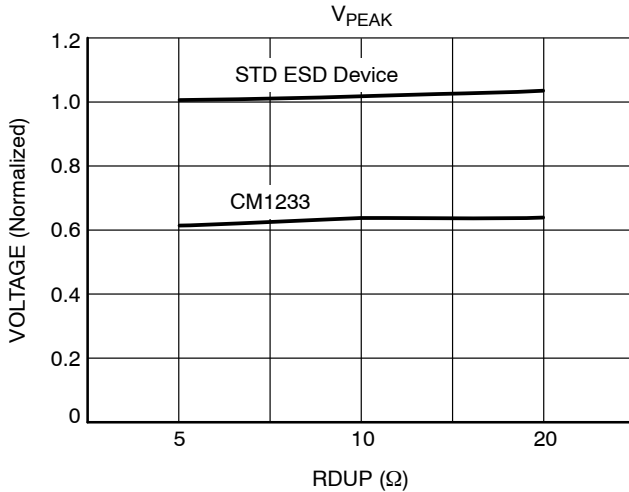
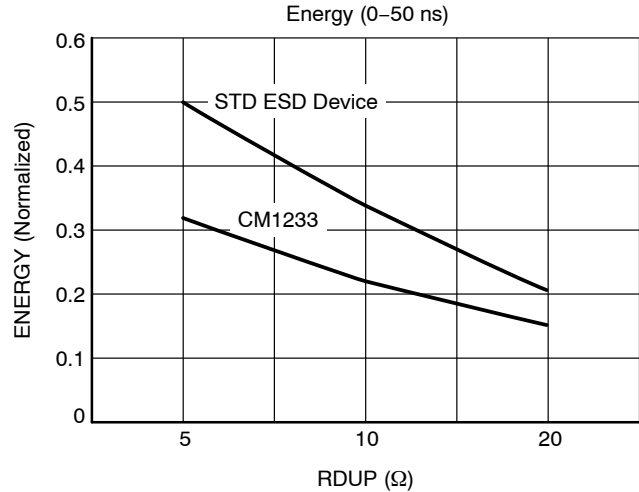
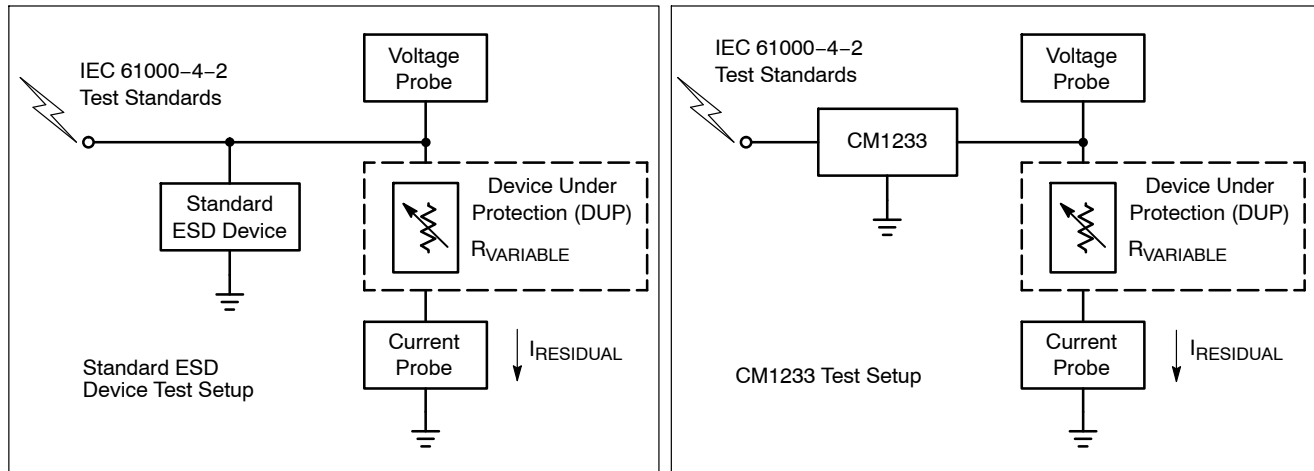

Figure 5. V_{Peak} (8 KV IEC-61000 4-2 ESD Contact Strike) and V_{Clamp} vs. Loading (RDUP)*
Figure 6. Energy Dissipated in DUP vs. RDUP*
Figure 7. Test Setups: Standard Device (Left) and CM1233 (Right)
Figure 5 shows that the CM1233 (ESD protector) lowers the peak voltage and clamping voltage by 45% across a wide range of loading conditions in comparison to a standard ESD protection device. Figure 6 also indicates that the DUP/ASIC protected by the CM1233 dissipates less energy than a standard ESD protection device. This data was derived using the test setups shown in Figure 7.
*RDUP is the emulated Dynamic Resistance (load) of the Device Under Protection (DUP). See Figure 7.